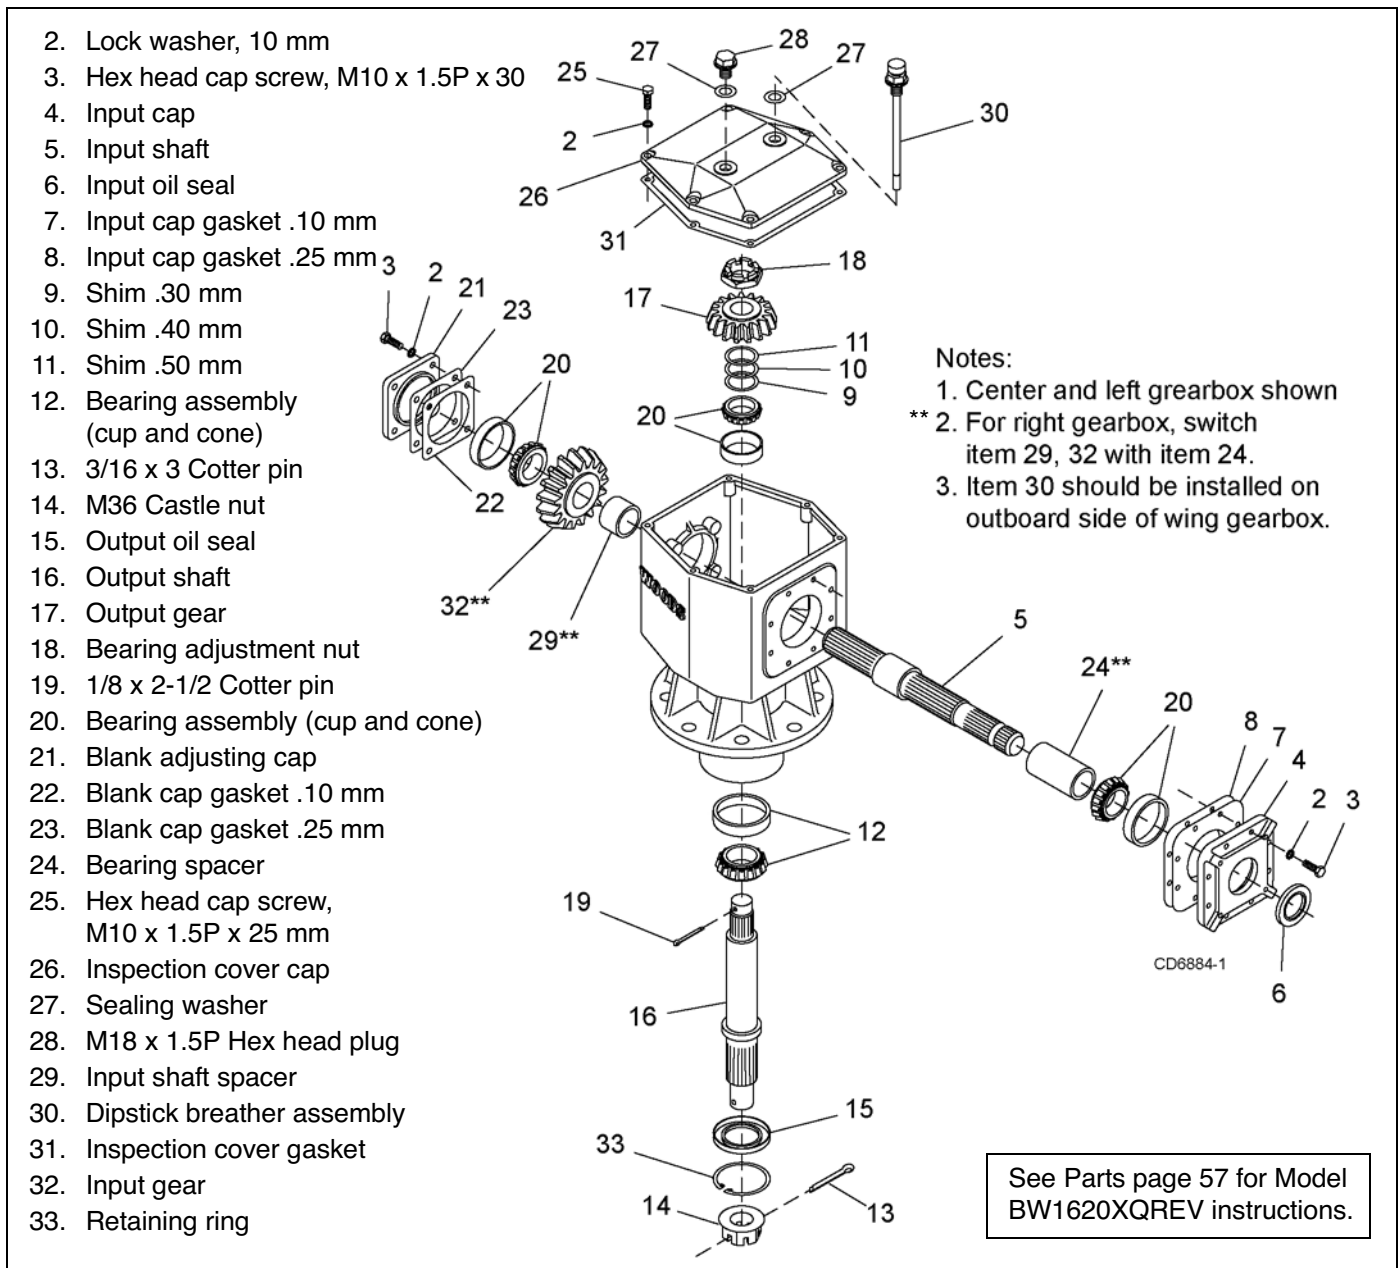

Figure 11. Gearbox (Wing & Center)
Vertical Shaft Seal Replacement (Figure 11)
2. Remove dipstick breather assembly (30), **Figure 11**, and siphon gear lube from housing through this opening.
3. Remove input oil seal (6). Replace with new one.
Gearbox Cap Leak Repair (Figure 11)
Gearbox Disassembly (Figure 11)
Gearbox Assembly (Figure 11)
Gearbox Installation (Figure 11)